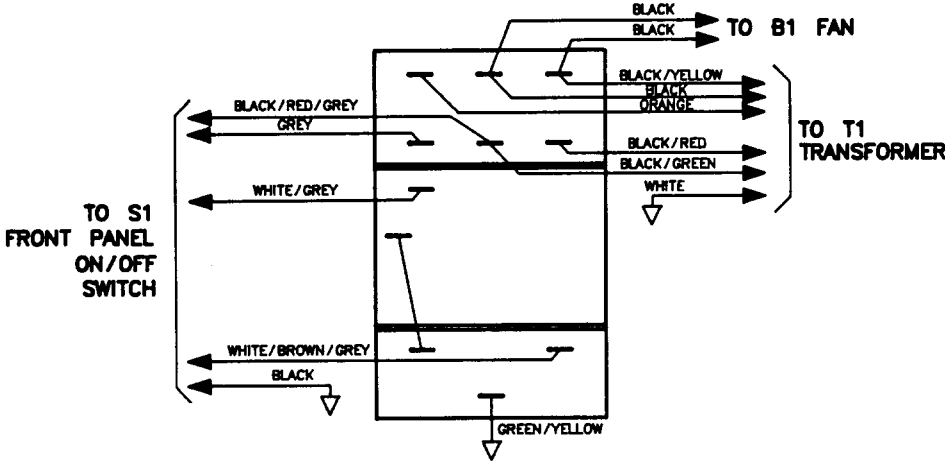

Figure 5-6 Wire Connections to Line Module FL1
- 7. Remove transformer T1. When replacing the transformer, refer to Figure 5-6, which illustrates the locations of the various wires connected to line module FL1.